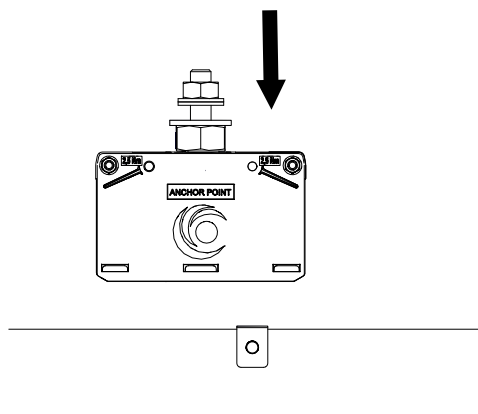
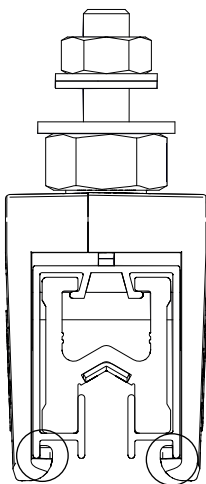

Fig. 26: The U-plate of the fixed point is off-center
Fig. 28: Anchor point completely encases the insulating profile
- Hang the two loosely mounted housing halves over the conductor rail via the mounted U-plate with bolts (see Fig. 26). Ensure that the anchor point completely encases the insulating profile (see Fig. 28).